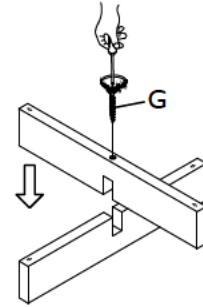

Figure 2
2. Attach legs to the table top with Bolt (B), Lock Washer (E), Flat Washer (C) by Allen Wrench (F) as shown in Figure 2.